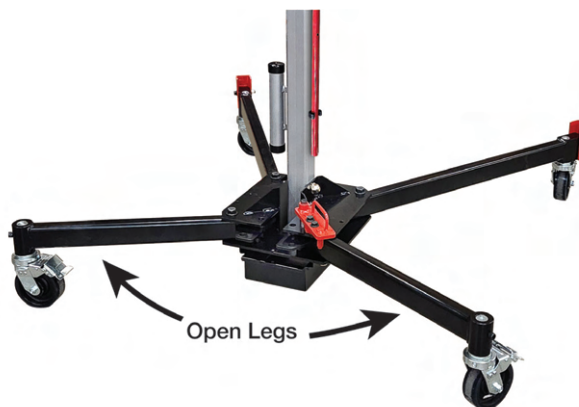

Figure 7-2: Pivot Legs to Widest Position
2. If legs are not in the widest, lift-ready position, pivot legs out to their widest setting. Do this by grasping the legs near the caster cylinders and moving the legs outward. See Figure 7-2.